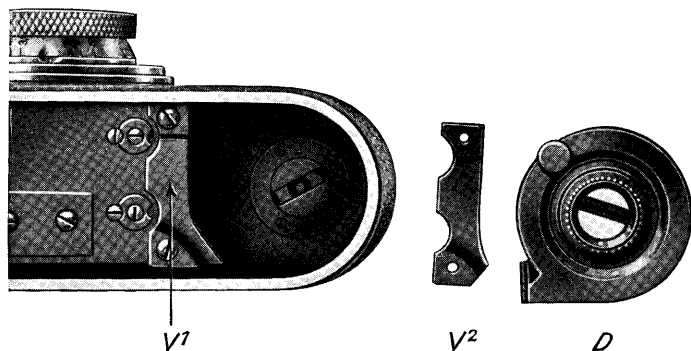

Fig. 7
**Please note.** Leica cameras which are not yet equipped with the lock  $V^2$  (see Fig. 7) must have this part fitted if the Leica cartridges are to be used.
To enable Leica cartridges to be used also in earlier models of the camera, the lock  $V^1$  as shown in Fig. 7 must, by loosening the two screws which hold it, be exchanged for a new  $V^2$  lock of somewhat different form. This is quite an easy matter. The new lock is supplied free of charge. After changing the lock, not only Leica cartridges, but also all other Leica spool chambers may be used in the camera.